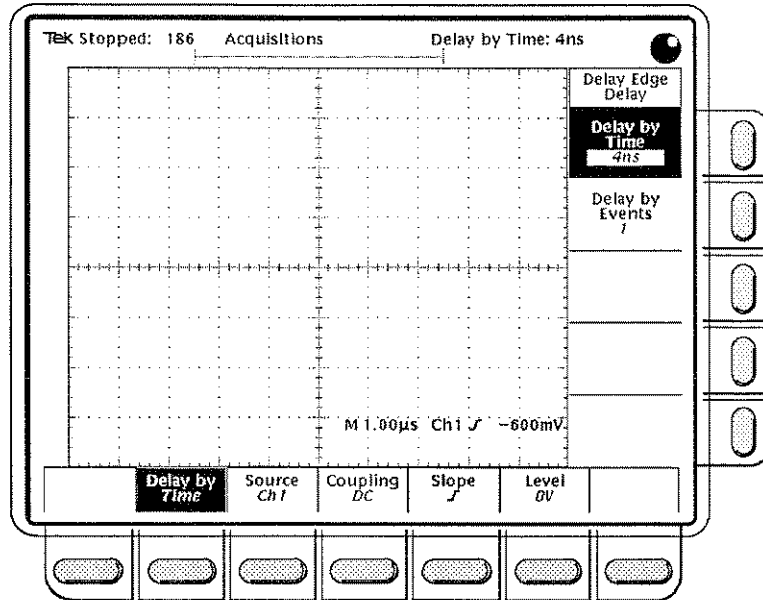

Figure 3-6: Delayed Trigger Menu
- Step 1:** Press the **DELAYED TRIG** button (**SHIFT** and **TRIGGER MENU** buttons) to bring up the Delayed Trigger menu (Figure 3-6).
- Step 2:** Press the main menu **Delay by** item to select, from the side menu, a time (**Delay by Time**) or an event-based (**Delay by Events**) delay (Figure 3-6).